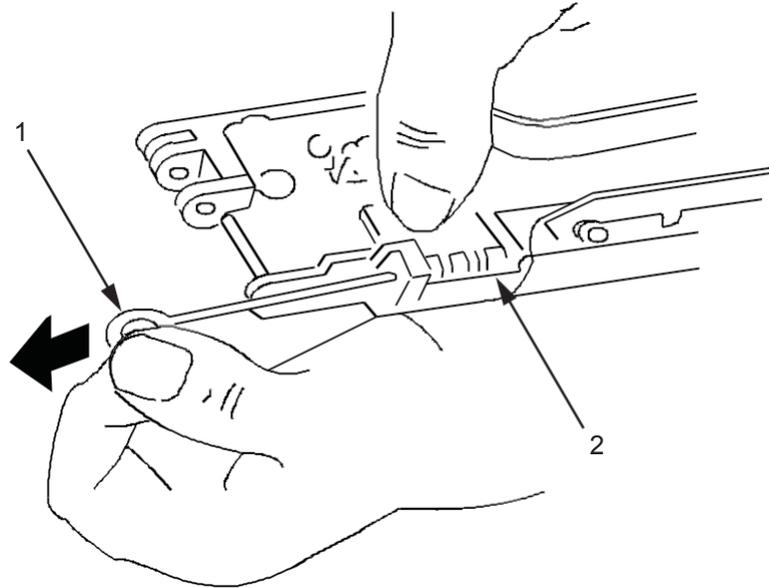

Figure 9. Cartridge Retaining Pawls, Hooked Retaining Pin.
13. Apply slight pressure to cartridge retaining pawls (Figure 9, Item 2) and remove hooked retaining pin (Figure 9, Item 1).
14. Visually inspect pin (Figure 9, Item 1) for bends or breaks. Replace if damaged.